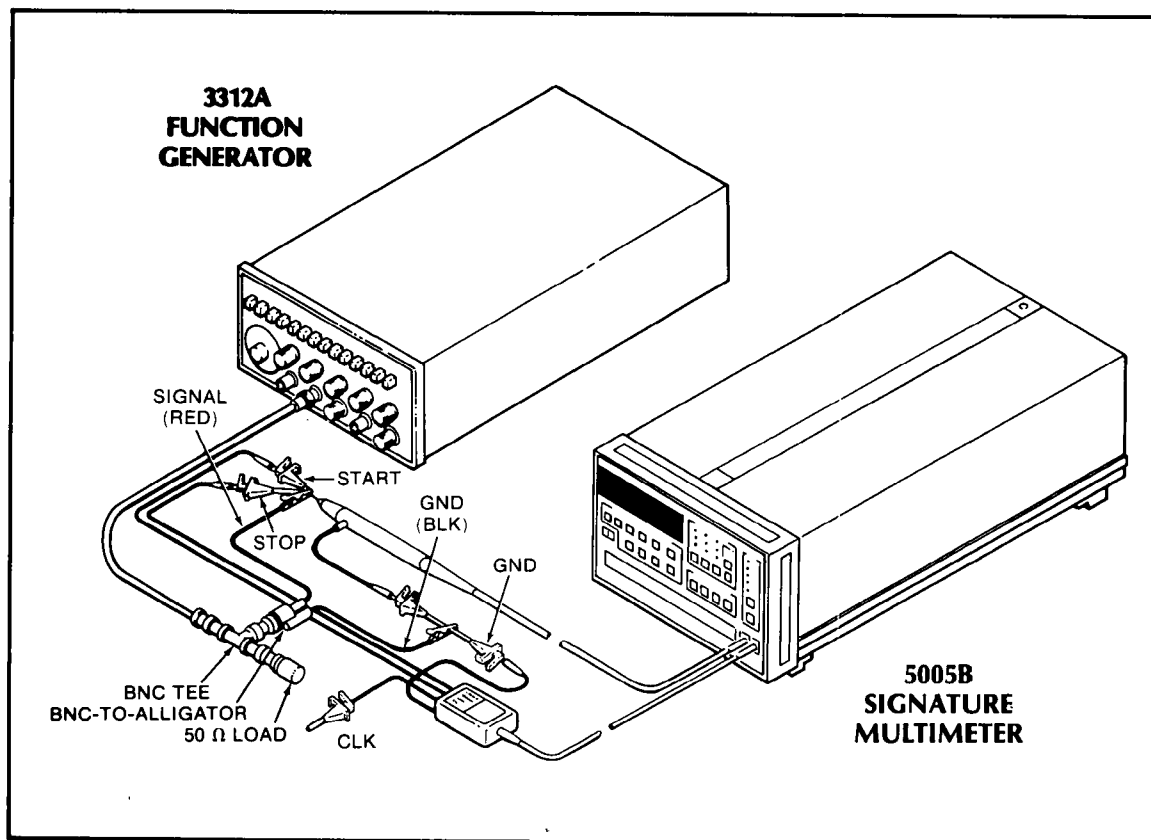

Figure 4-2. Totalizing Counter Operation Verification Test Setup
- b. Connect equipment as shown in *Figure 4-2*.